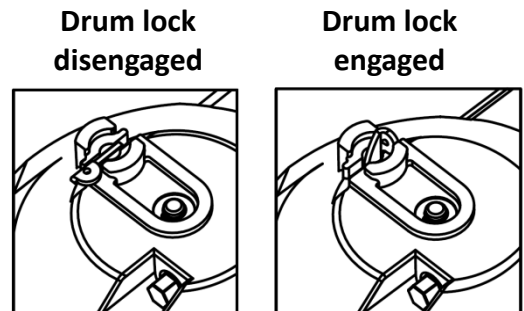

Fig. 05
- [See - Fig. 05] for Manual Drum Lock Lever in engaged and disengaged position.